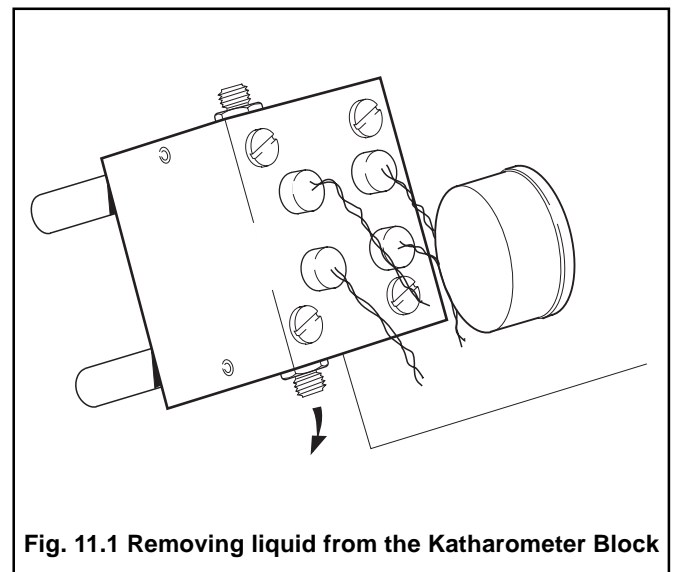

Fig. 11.1 Removing liquid from the Katharometer Block
11.4.1 Removing Liquid from the Katharometer Measurement Block – Fig. 11.1
- 6) Remove the measuring unit from the case and tilt at 45° to the horizontal. This allows any liquid to drain from the measurement block – see Fig. 11.1.